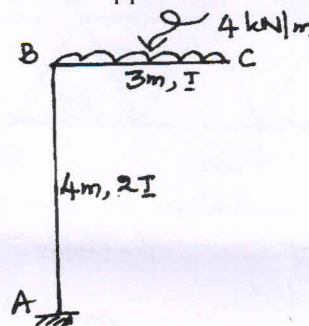

Fig.Q5(b)
b. Find the horizontal and vertical deflection at the free end 'c' of a bent frame loaded as shown in Fig.Q5(b). Using unit load approach. Take $EI = 15000 \text{ kN-m}^2$.